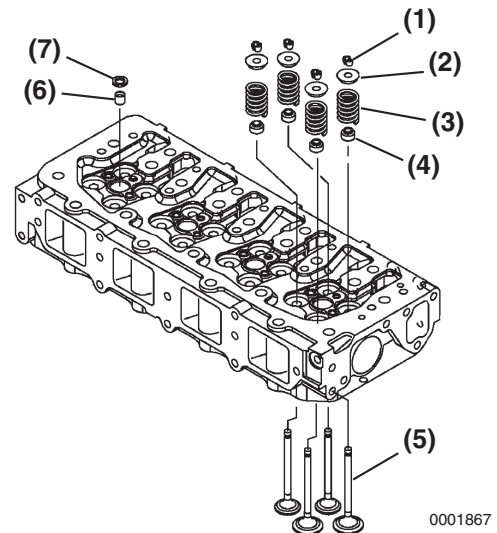

Figure 6-66
- Place all the valves (Figure 6-66, (5)) in their proper location in the cylinder head.
- Place the cylinder head on the workbench with the combustion side down. Install the valve spring (Figure 6-66, (3)) and spring retainer (Figure 6-66, (2)).
7. Insert the valve keepers (**Figure 6-66, (1)**) and slowly release the tension in the valve spring. Repeat the steps on all the remaining valves.